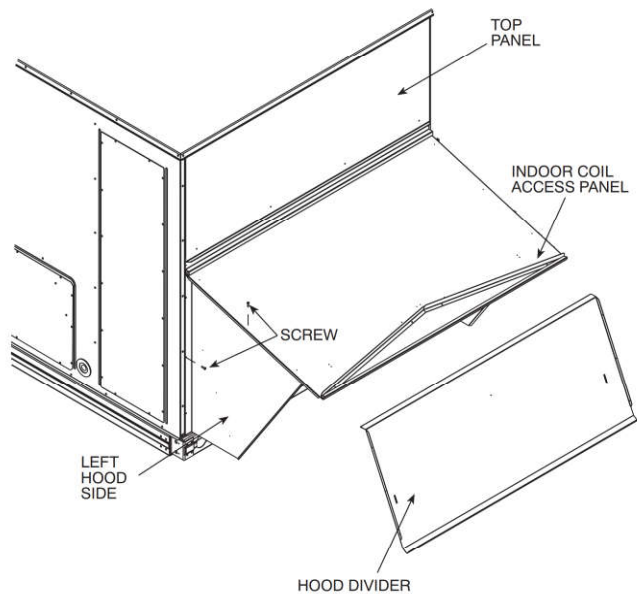

Fig. 22 — Economizer Hood Construction
2. Swing out indoor coil access panel and insert the hood sides under the panel (hood top). Be careful not to lift the panel too far as it might fall out. Use the screws provided to attach the hood sides to the hood top. Use screws provided to attach the hood sides to the unit. See Fig. 22.
7. Install the two rain deflectors on the edge of the hood top as shown in Fig. 22.
8. Caulk the ends of the joint between the unit top panel and the hood top as shown in Fig. 22.